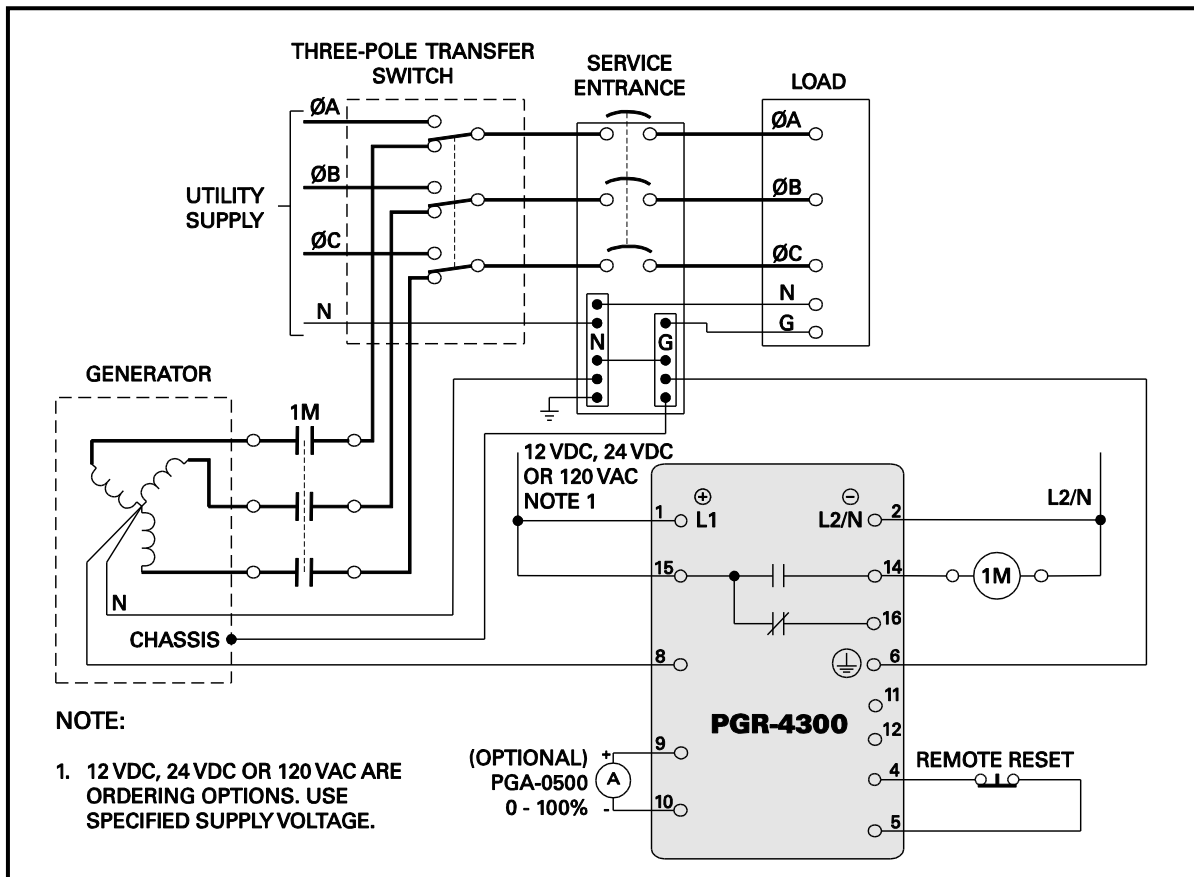

FIGURE 2. Three-Pole Transfer Switch Typical Connection Diagram.
In a three-pole transfer-switch application, the generator neutral and system neutral are connected to ground at the service entrance. The connection between the generator neutral and service-entrance ground is assumed to have a resistance of 2 m Ω and voltage across this conductor is measured to calculate ground-fault current. See Fig. 2. The selection of a neutral-bonding conductor can be made using NEC 250.102(D) and 250.122, and calculating the conductor length needed for a 2 m Ω resistance.
A non-isolated, 0- to 1-mA output (terminals 9 and 10) indicates ground-fault current. Full-scale corresponds to the ground-fault level setting. For example, if the ground-fault level setting is 300 A, then 1 mA output will be indicated when the measured current is 300 A. The output is linear between zero and full scale. See Figs. 2, 3 and 4 for PGA-0500 meter details.
Terminals 4 and 5 are used for remote reset. A normally closed contact switch is required to configure the PGR-4300 for latching operation. See Section 2.2.3 and Figs. 2 and 3.
This ground-fault monitoring system consists of a PGR-4300 Generator Ground-Fault Relay connected as shown in Figs. 2 and 3.
For a three-pole system, connect terminal 8 to the generator neutral, and terminal 6 to the local ground. See Fig. 2.